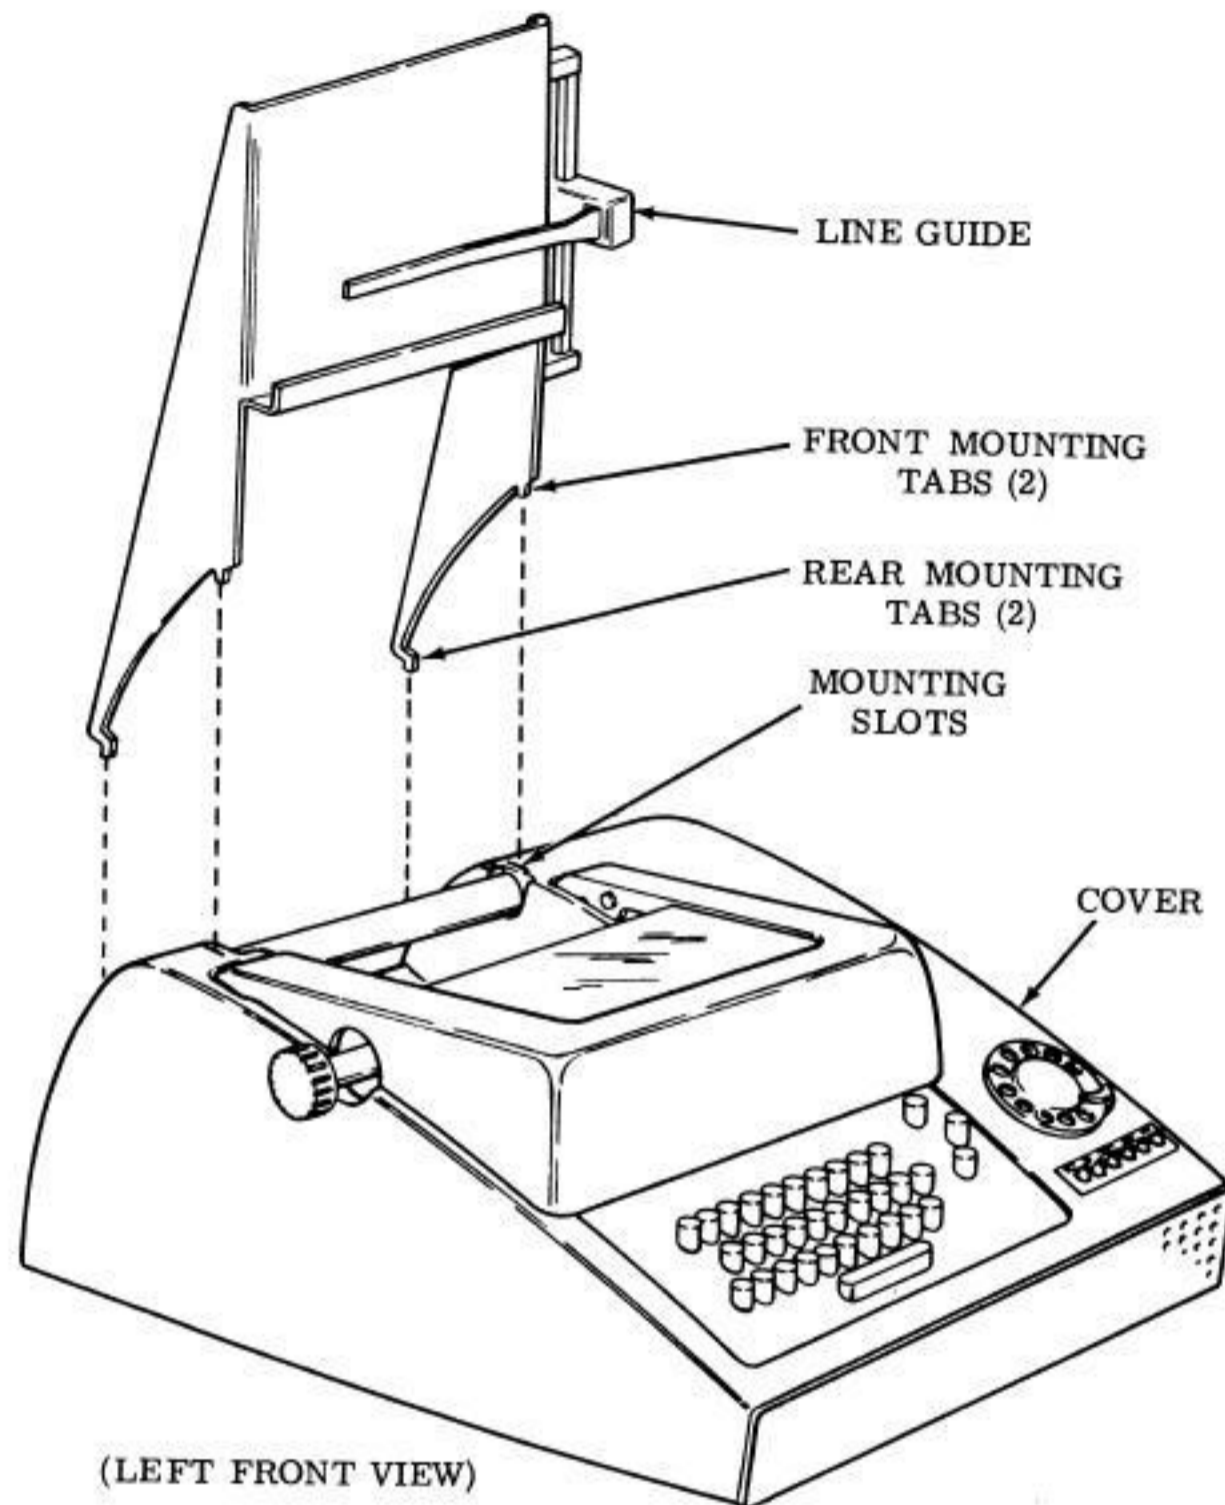

Figure 9 - Copy Holder
4.01 Figure 9 illustrates the copyholder.